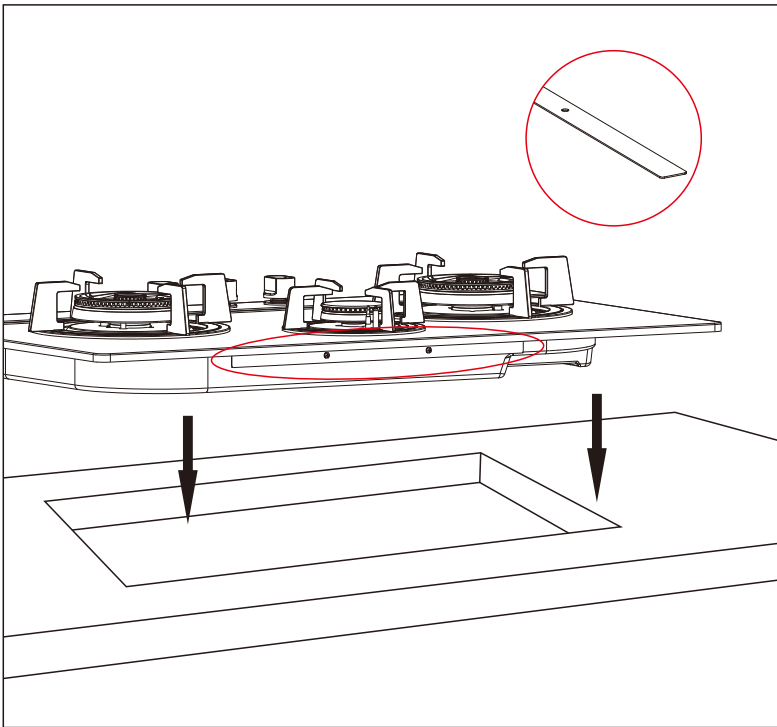

Fig.9
- If there is any gap between the side of the kitchen top and the appliance bottom plate, bend the flexi-strip to stabilize the appliance (Fig.9).